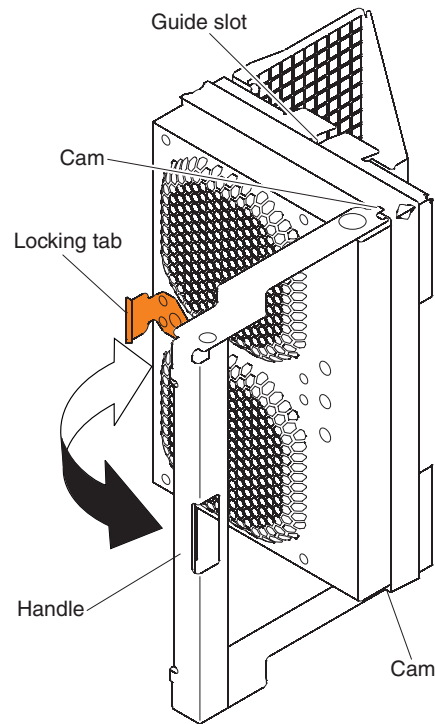

Figure 61. Removing a fan assembly
- a. At the rear of the storage expansion enclosure, remove the fan assembly (see Figure 61 on page 125) by pressing on the locking tab holding the fan assembly handle in place; then, pull the fan assembly towards you.